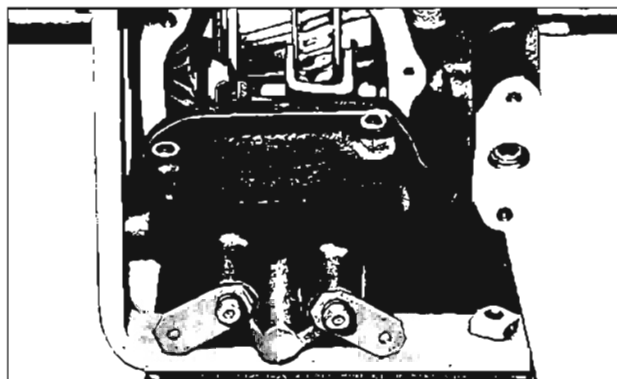

Fig. 7-112 Transmission Side Cover
- NOTE: Hump on first and reverse shifter fork (Fig. 7-112) must be toward rear of transmission.